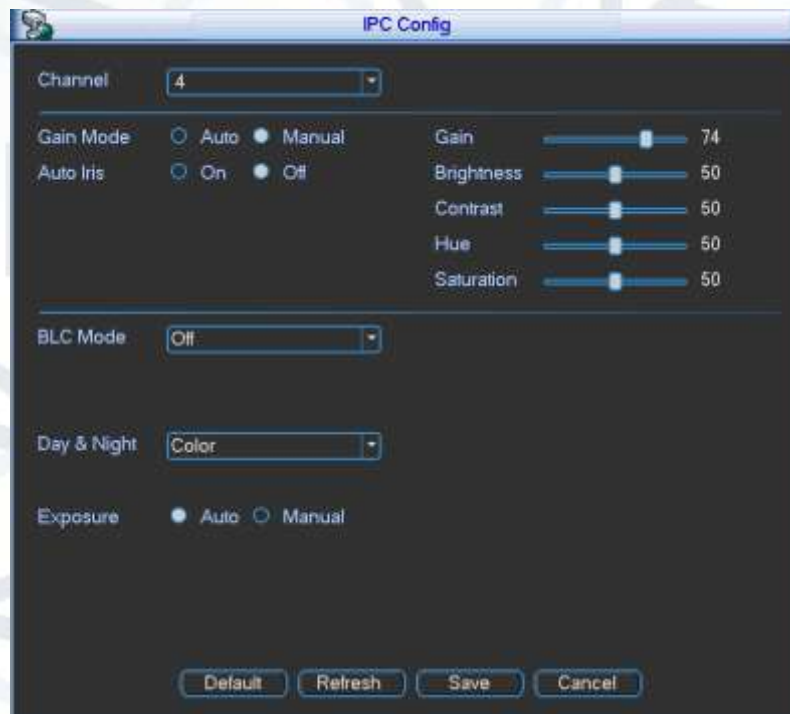

Figure 4-72
- **IPC config:** Double click the  on the IPC config column, you can go to the IPC setup interface (see Figure 4-72).